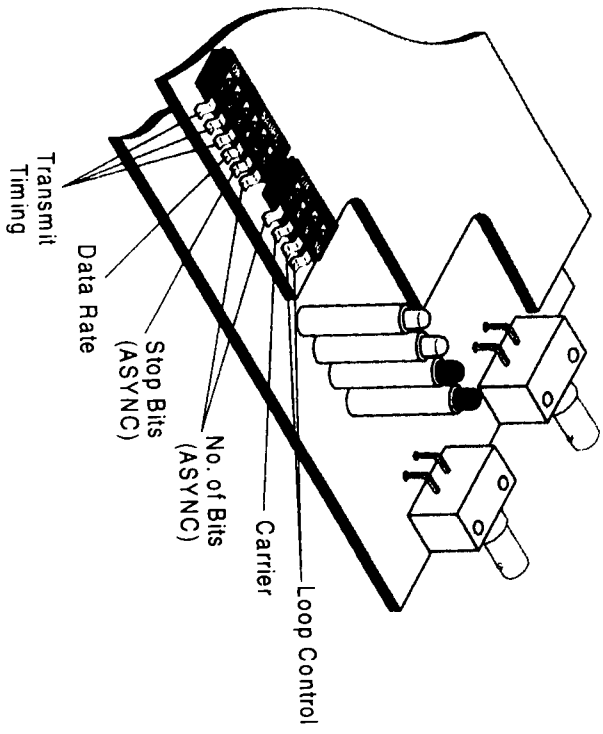

Figure 1. FOM-8H Strapping Diagram
2. Strap the modem according to the strapping diagram (see *Figure 1*) and the strap selection table (see *Table 1*).
- 9b. Set the frequency allowance and the character length according to Tables 1 and 2 and Figure 1, using S5, S6 and S7.
**Note:** The ten switches are mounted on two separate units (see Figure 1). The first unit has six switches and the second has four. Table 2 relates to these switches as one group, numbered 1 to 10.